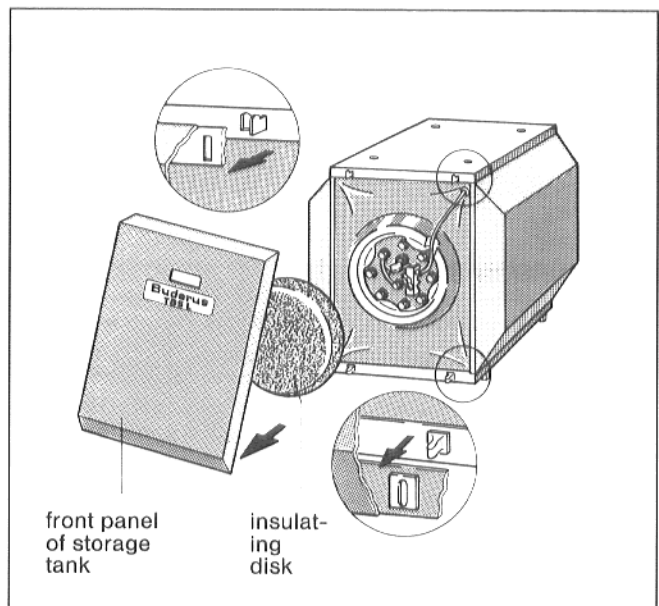

Fig. 5
- Pull the front panel of the storage tank toward the front and detach from the hooks on the storage tank (Fig. 5).